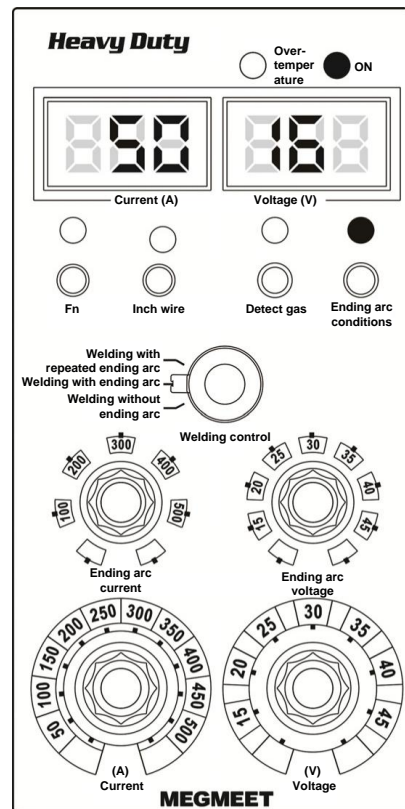

Figure 3-11 Selecting the mode of welding with repeated ending arc
4. Figure 3-11 shows the control panel where the parameters have been set.